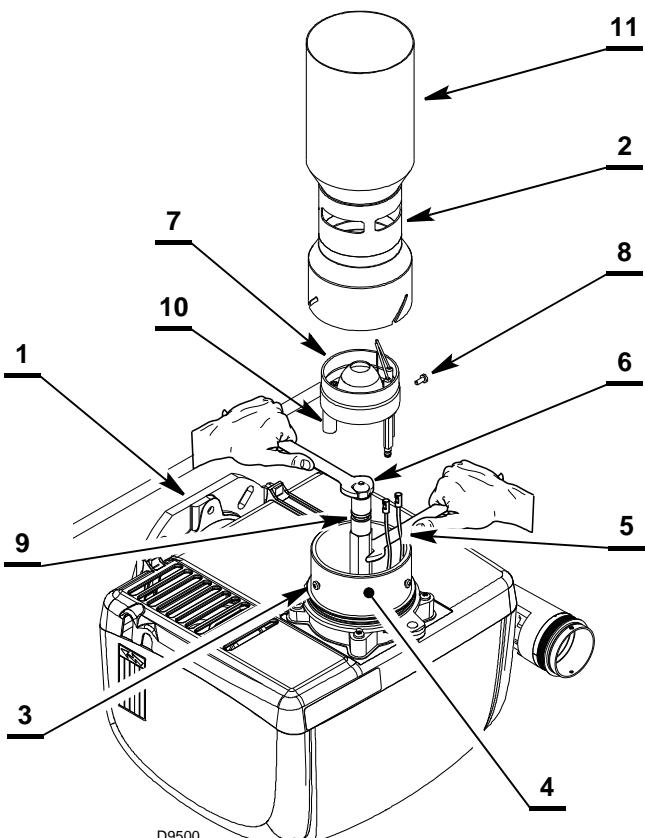
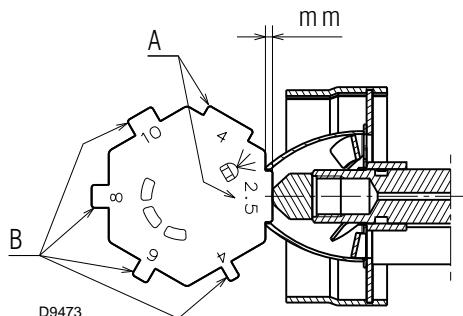

Fig. 25
Fig. 27
- hook the burner onto flange 1) (Fig. 25).
**HOLD THE NOZZLE HOLDER WITH A SPANNER (Fig. 25).**
- hook the burner to the flange 1) (Fig. 25) and loosen the screws 3);
- Use the template 2) supplied (Fig. 27) to check that the head assembly is placed correctly 1), following the instructions indicated in Tab. B.
- Fit the blast tube 2) (Fig. 25) and fix it with the screw 3) with a tightening torque not exceeding 0.8 Nm, being careful to adjust the opening of slots as indicated in Tab. A page 17 (use the template supplied) (Fig. 27).